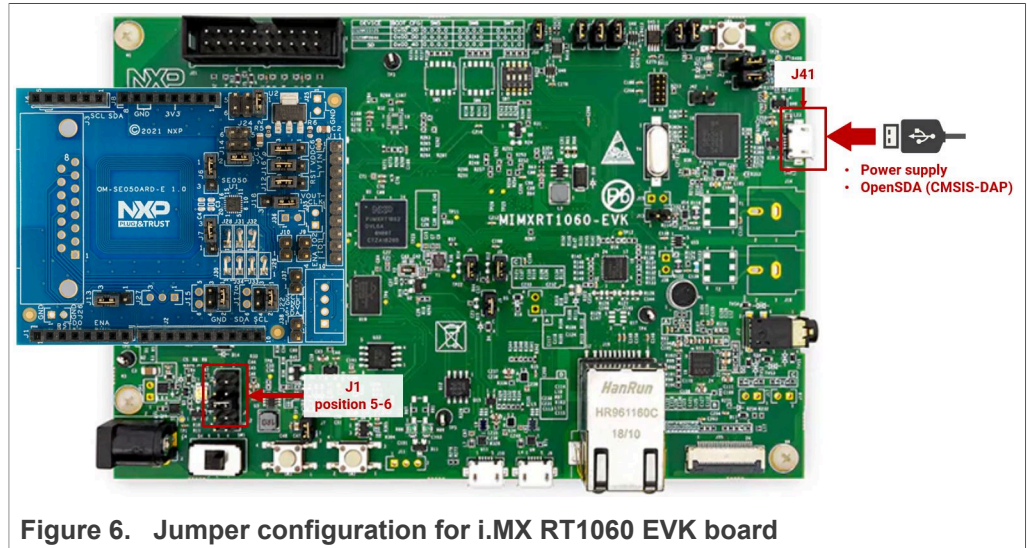

Figure 6. Jumper configuration for i.MX RT1060 EVK board
- 4. **i.MX RT1060:** configure the **J1** jumper of the i.MX RT1060 EVK board in position 5-6 as shown in Figure 6. With this setting, the board power supply and the DAP-Link debugger will function using the **J41** micro-USB connector.